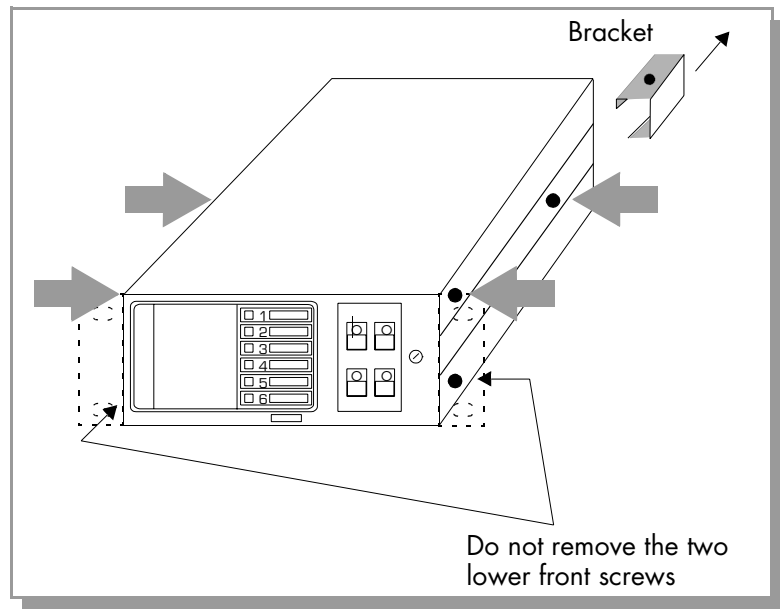

Figure 2-3 Location of Screws for Removal of Top Cover.
3. Remove the four Phillips head screws identified in Figure 2-3. If the unit is equipped with a rear bracket instead of one rear screw, unfasten the Phillips head screw on the bracket, and slide off the bracket.